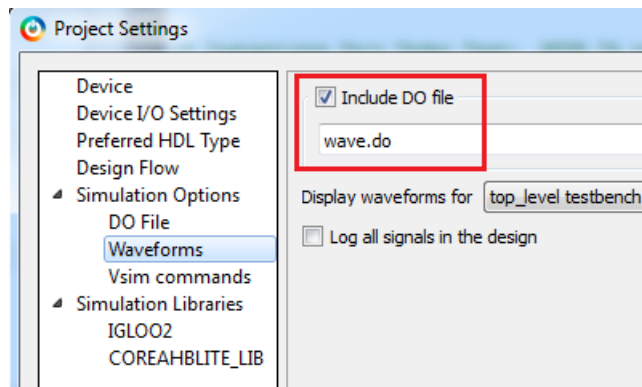

Figure 15 • Waveforms Settings
- Click **Project > Project Settings > Simulation Options > Waveforms**. Figure 15 shows the Waveforms settings on the right.
- Select the **Include DO File** check box and enter **wave.do** in the box as shown in Figure 15.